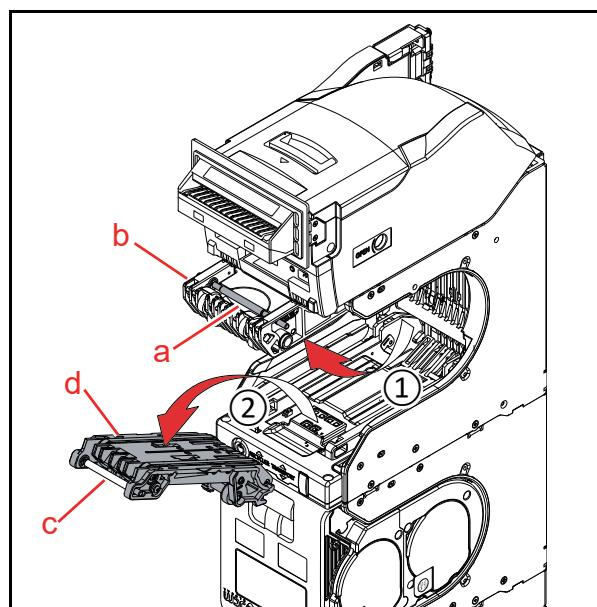

**Figure 4-1 UBA Pro Unit, Recycler and Cash Box Removal**
1. Pull the Lever (Figure 4-1 a) to release the lock.
2. Slide and remove the UBA Pro Unit (Figure 4-1 b) from the Frame (Figure 4-1 c) as illustrated by the Arrow ①.
3. Press down on the Release Lever (Figure 4-1 d) of the Recycler (Figure 4-1 e) installed in the RT Transport, and pull the Recycler out of the RT Transport in the direction indicated by Arrow ②.
4. Press up on the Release Lever (Figure 4-1 f) of the Recycler (Figure 4-1 g) installed in the RQ Transport, and pull the Recycler out of the RQ Transport in the direction indicated by Arrow ③.
5. Pull the Cash Box Handle (Figure 4-1 h) to remove the Cash Box (Figure 4-1 i) from the Frame (Figure 4-1 c) in the direction indicated by Arrow ④.